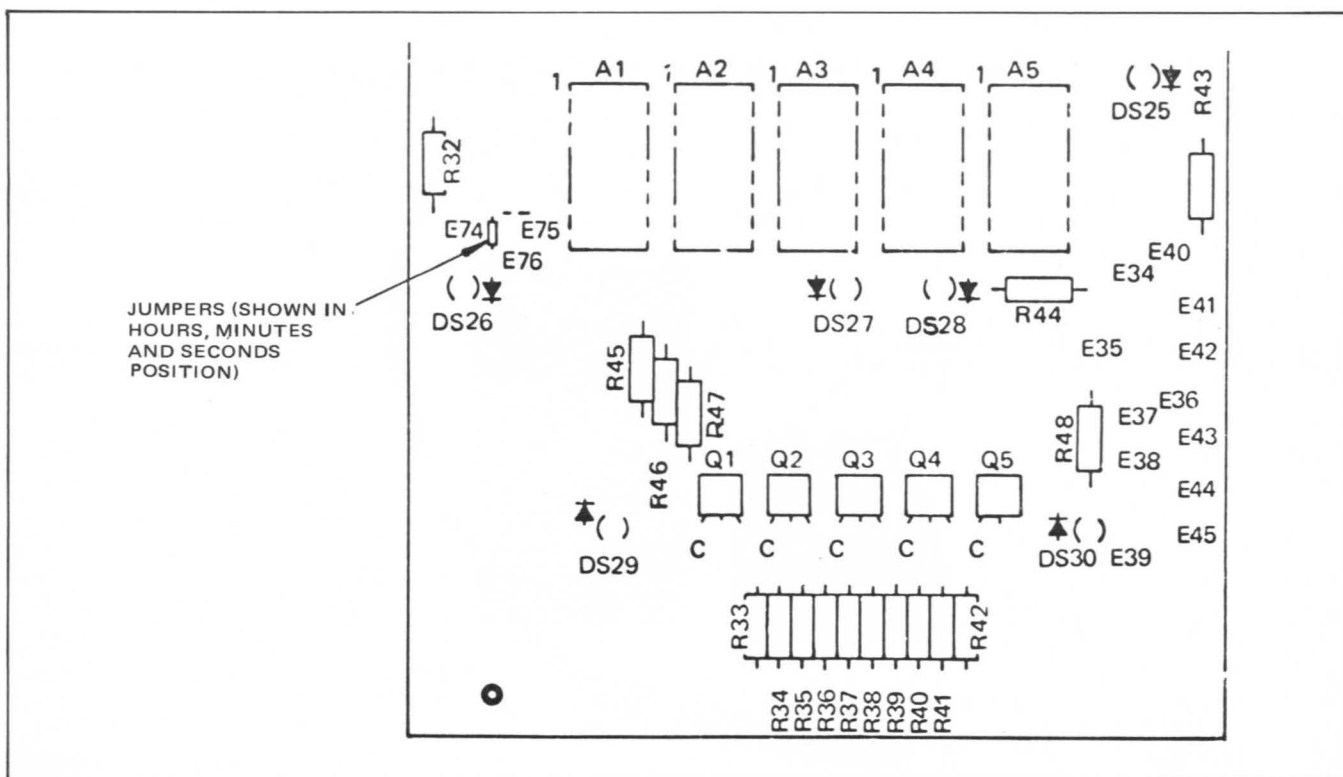

Figure 2-27. Tape Timer Display Selection Jumper, Control Unit PWA No. 1
9. Remove jumper on the component side of the board installed between E74 and E76 (Figure 2-27) and install between E74 and E75. Solder in place.
9. Remove jumper on the component side of the board installed between E74 and E75 (Figure 2-27) and install between E74 and E76. Solder in place.